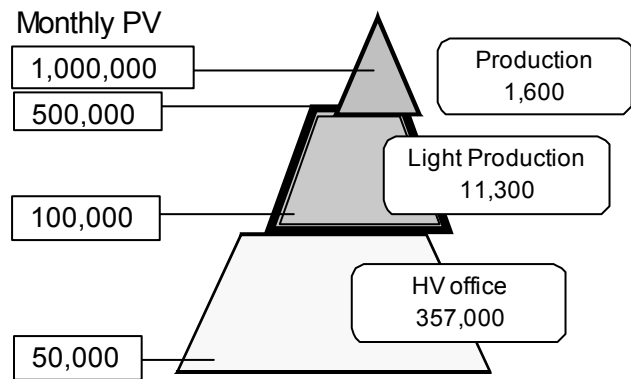
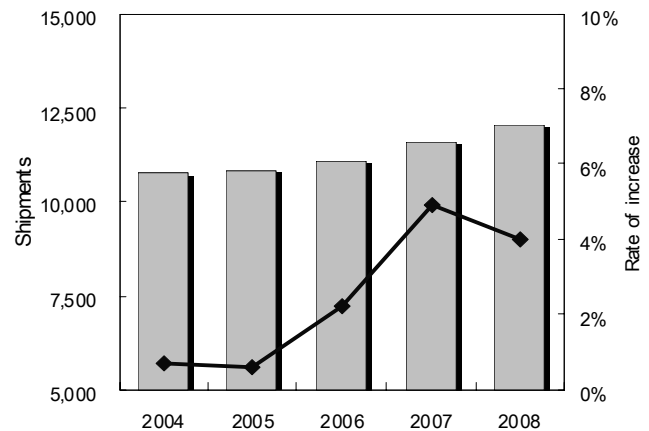

Figure 1. Scale of the high-volume printing market in the United States
Figure 2. Projection of the Seg. 6 MFP machines in the field
High-volume printing market in United States is classified in three regions by monthly print volume (PV) shown in Figure 1. Products specification required in each region is also differed from one another as well as PV. In the recent office market, color MFP is becoming popular, which causes rapid increment of colorization ratio above 30 percent in the business office. However, in the production printing (PP) market, the printouts covered by the conventional offset press machines are partially replaced with the on-demand printouts by some electrophotographic (EP) printing products. In a part of the graphic market, color EP products are now on distribution, and in the mid-volume printing market, gradual increment of B/W printing products has been still continued. Figure 2 shows a projection of the Seg. -6 market. It is expected that the B/W products will occupy the most part of the growth of this segment.